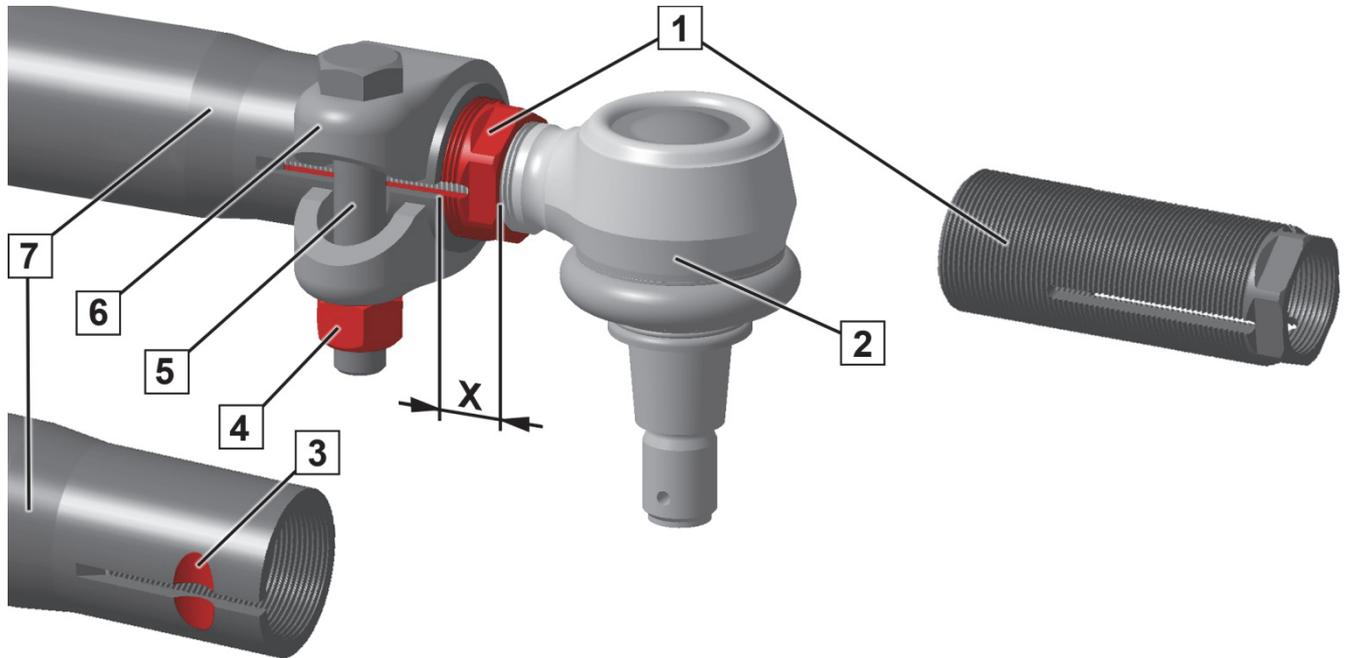

Fig. 1: Fine-tuning system
After adjusting the spur, the threaded sleeve (1) must protrude by the dimension X from the tube (7). Dimension X (Fig. 1):